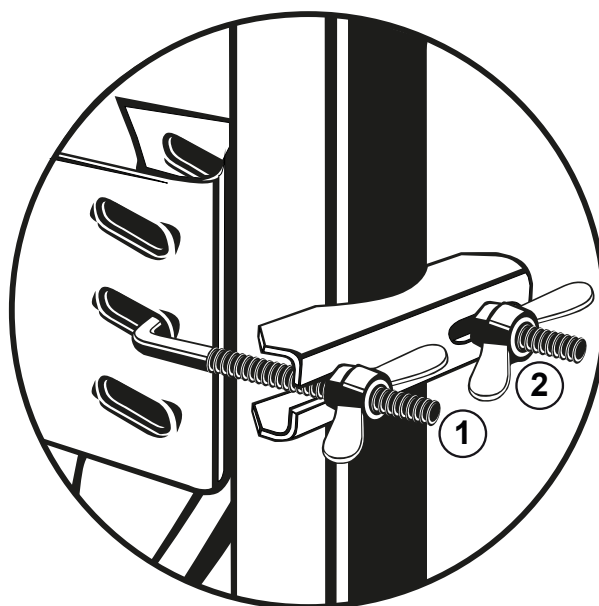

Fig. 8: Setting the direction (azimuth)
2. Slightly loosen the wing nuts on the mast clip (①, ② in Fig. 8).